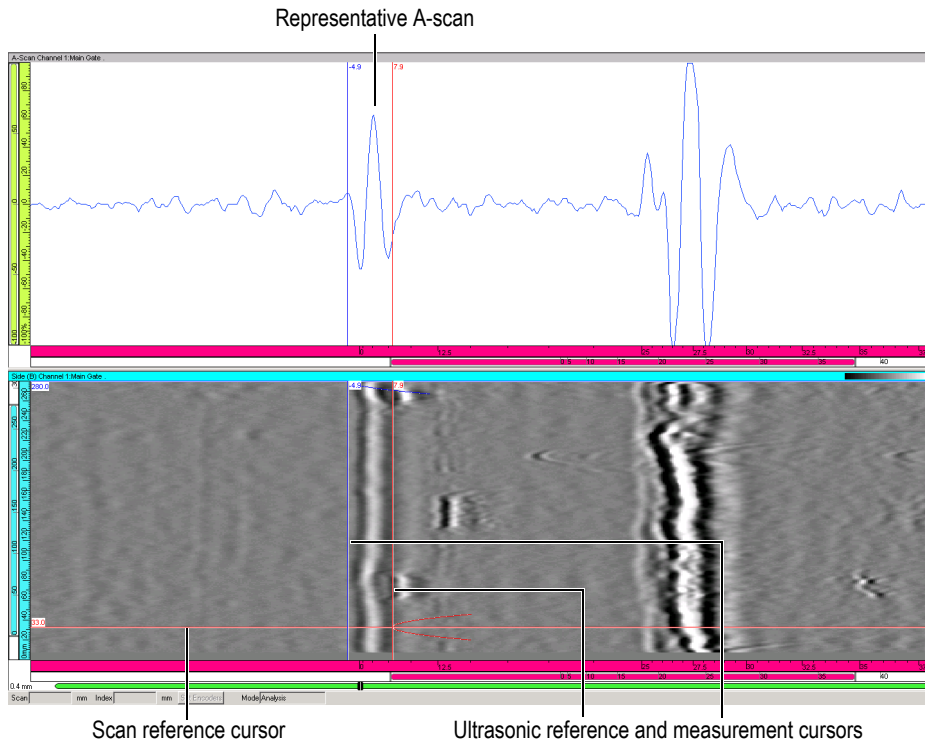

Figure 7-20 Selection of reference A-scan
2. In the **Side (B)** view, position the scan reference (red) cursor to select a reference A-scan in an unflawed zone (see Figure 7-20 on page 360). If the selection of the reference A-scan is correctly performed prior to the lateral wave synchronization, this operation does not need to be repeated.
3. In the **Side (B)** view, position the ultrasonic reference cursor (red) and the ultrasonic measurement cursor (blue) on either side of the lateral wave (see Figure 7-20 on page 360). If the lateral wave signal shows a lot of variation, it is important to position the cursors at least around the first oscillation of the lateral signal.